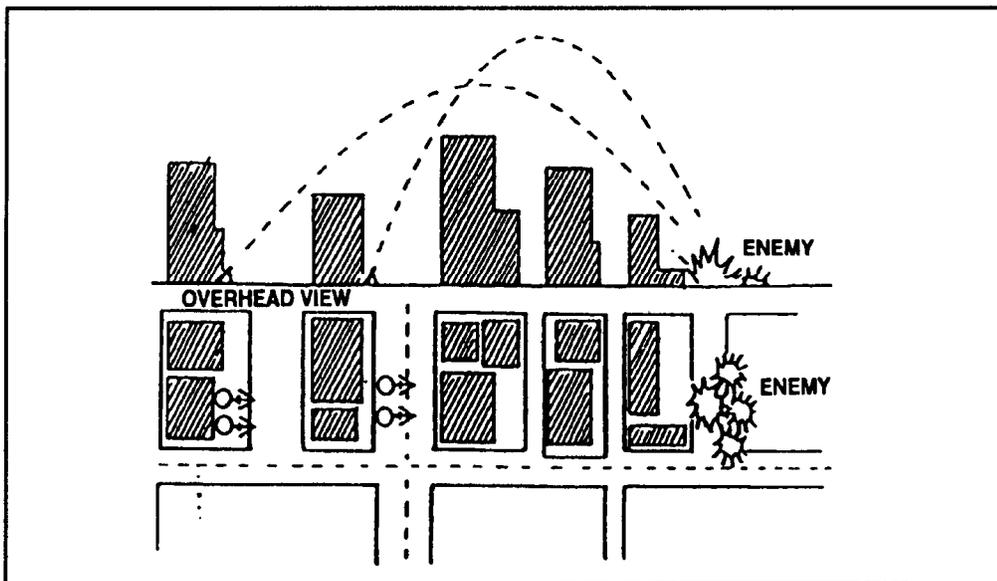

Figure 8-15. Split-section mortar operations on adjacent streets.
(1) Mortars can be fired through the roof of a ruined building if the ground-level flooring is solid enough to withstand the recoil. If there is only concrete in the mortar platoon's area, mortars can be fired using sandbags as a buffer under the baseplates and curbs as anchors and braces. Aiming posts can be placed in dirt-filled cans.
(2) The 60-mm, 81-mm, and 107-mm mortars of the US Army have limited effect on structural targets. Even with delay fuzes they seldom penetrate more than the upper stories of light buildings. However, their wide area coverage and multioption fuzes make them useful against an enemy force advancing through streets, through other open areas, or over rubble. The 120-mm mortar is moderately effective against structural targets. With a delay fuze setting, it can penetrate deep into a building and create great destruction.
(3) Mortar platoons often operate as separate firing sections during combat in built-up areas. The lack of large open areas can preclude establishing a platoon firing position. Figure 8-15 shows how two mortar sections, which are separated by only one street, can be effective in massing fires and be protected from counter-mortar fire by employing defilade and dispersion.